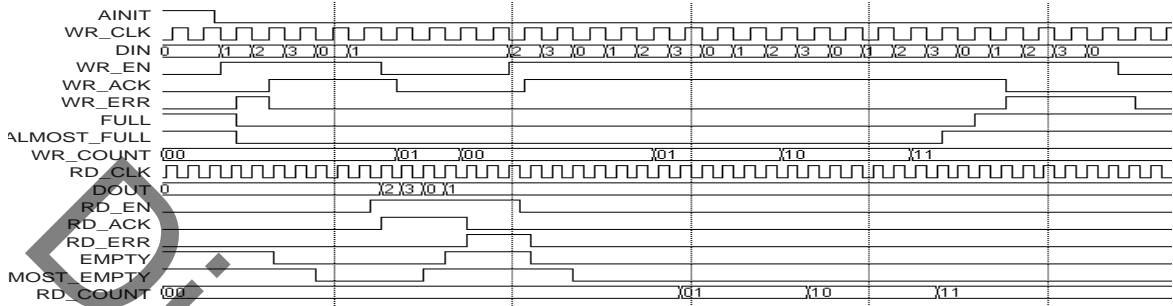
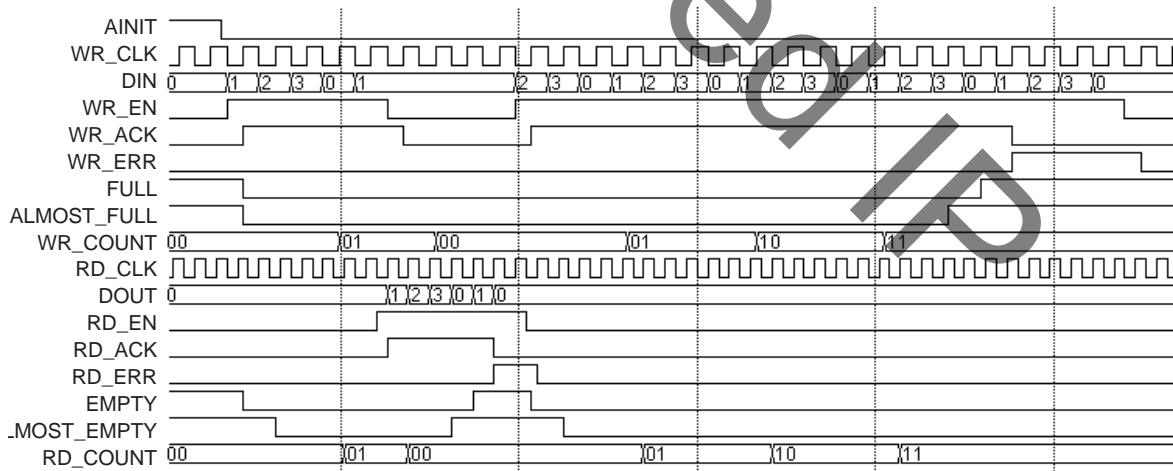

Figure 2: Timing Diagram of Read and Write Operations for FIFO VHDL Behavioral Model
Figure 3: Timing Diagram of Read and Write Operations for FIFO Verilog Behavioral Model
Optional handshake signals are provided to simplify user control logic interacting with the FIFO. The WR\_ACK and WR\_ERR signals indicate acknowledgment or rejection of requested write operations. Similarly, RD\_ACK and RD\_ERR signals indicate the acknowledgment or rejection of read operations. Each of these control signals can be made active high or low from the GUI. Note that all of these handshake signals are synchronous to their respective clock domains and indicate the acknowledgment or rejection of requests during the prior rising clock edge. Because an acknowledgment or error response depends on an active request (WR\_EN or RD\_EN), the ACK and ERR signals are not always the inverse of each other. If no operation is requested, both the acknowledgment and the error signal will be inactive during the subsequent clock period. For an example of expected signal sequencing, refer to the timing diagram shown in Figure 2.
**Figure 2** shows the waveform output of the VHDL behavioral model for a FIFO with depth of 15. Initially, the FULL and ALMOST\_FULL output flags are high, indicating that the FIFO is in a reset state and the user should not write to the FIFO. When WR\_EN is set to 1, the first write operation fails and returns a WR\_ERR because on that rising clock edge the FIFO is reporting FULL and can not be written to.
The WR\_COUNT and RD\_COUNT outputs in **Figures 2** and **3** report an estimated value of the number of words in the FIFO relative to their respective clock domains. These outputs are expressed as the fraction of the FIFO that is full, and can be used to generate user-threshold flags. Due to delays in the core, these outputs can never be relied upon as an exact measure of the number of words in the FIFO.
**Figure 3** shows the waveform output of the Verilog behavioral model for a FIFO with a depth of 15. Unlike the VHDL model, it is a purely functional model. The actual waveform of the Verilog model in **Figure 3** looks quite different from the VHDL waveform in **Figure 2**, but they are functionally equivalent from the point of view of either the read or write interface of the FIFO. As there is no delay in the Verilog model, the effects of full, empty, read, or write can occur instantaneously.